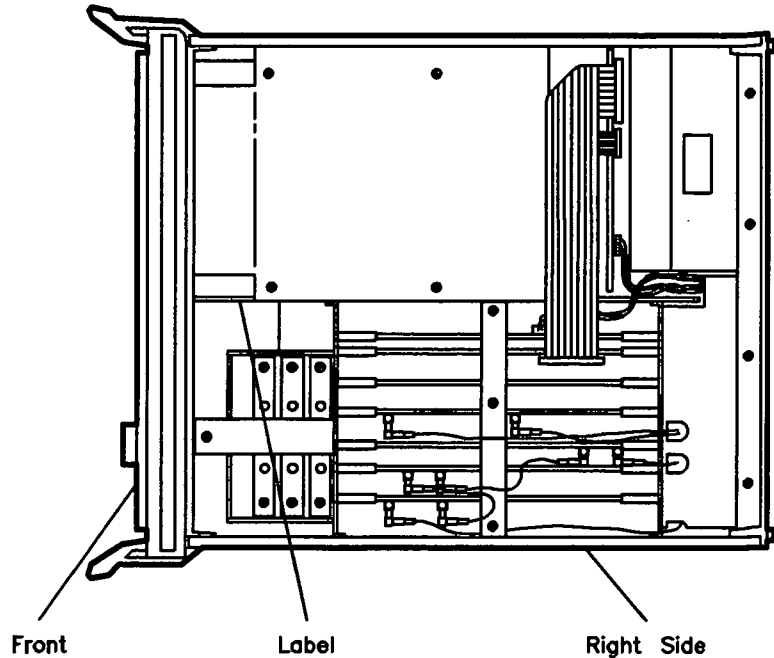

Figure 5-4. Location of Keyword Label
1. Remove the top cover of the instrument. Move the A9 correction constant to the alter position (see *Adjustments* tab). Note the keyword on the keyword label (see Figure 5-4).